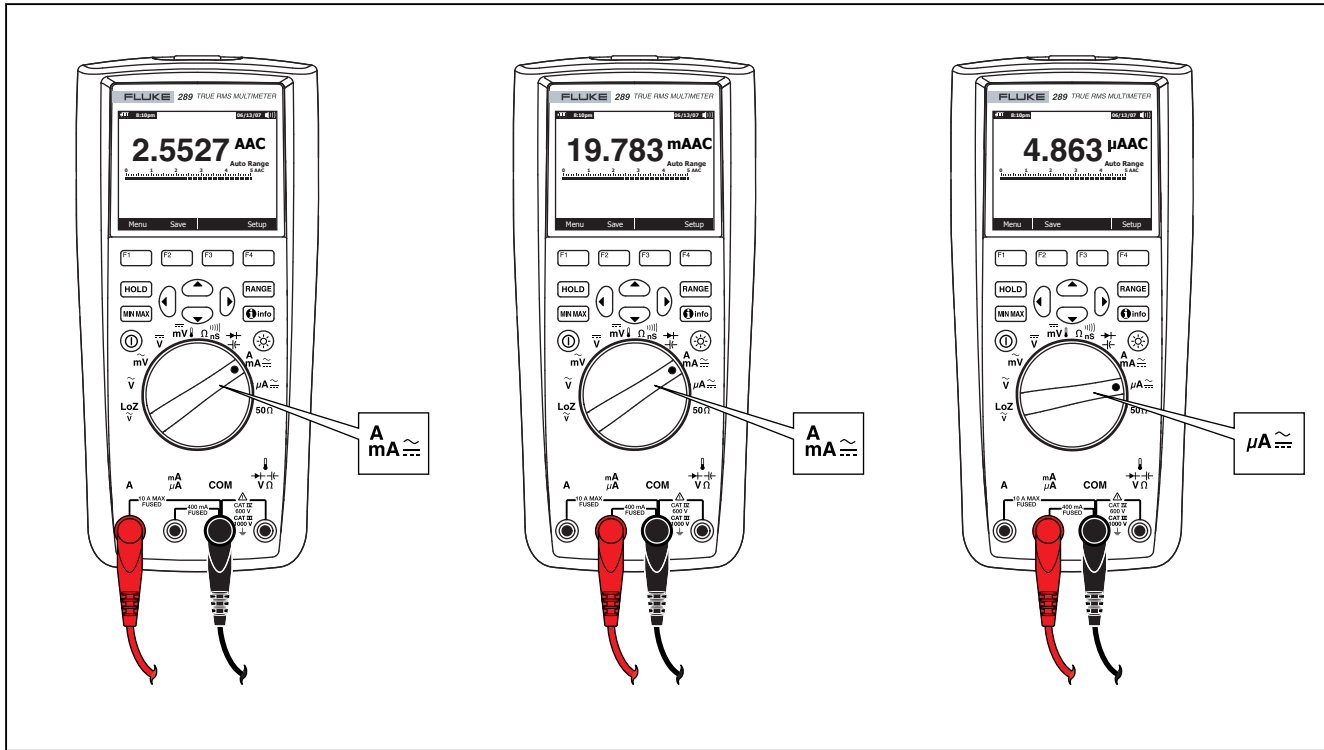

Figure 21. Current Measurement Setup
3. If you are using the A terminal, set the rotary switch to  $\overset{\text{A}}{\text{mA}} \approx$ . If you are using the mA/μA terminal, set the rotary switch to  $\overset{\mu\text{A}}{\text{mA}} \approx$  for currents below 5000 μA (5 mA), or  $\overset{\text{A}}{\text{mA}} \approx$  for currents above 5000 μA. See Figure 21 for test lead connections and function selection. Refer to the "Input Alert Feature" section for information on the alerts the Meter uses when leads are not used correctly for current measurements.